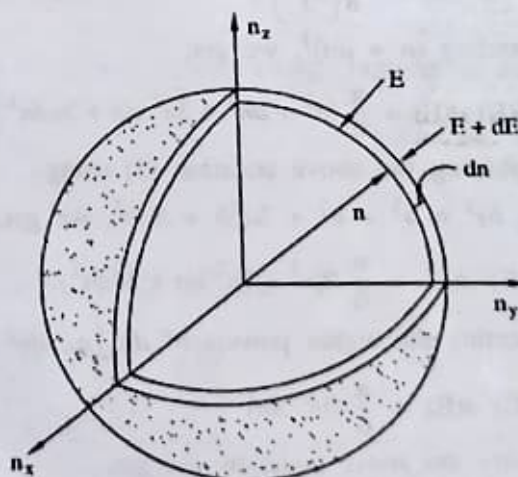

FIG. 1.16 : SPHERES SHOWING DENSITY OF STATES IN n -SPACE
- Consider that the sphere is further divided into number shells as shown in Fig. 1.16.